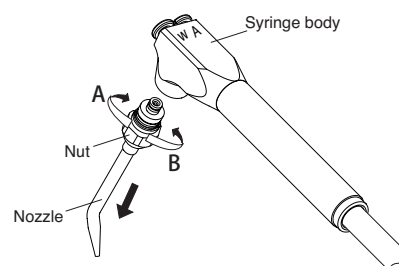

Fig.4-10 Belmont 77 Syringe
4. Belmont 77 Syringe (Fig.4-10)